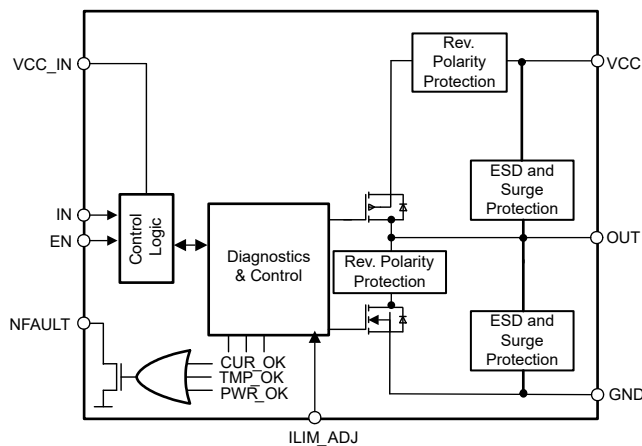

图 8-1. Block Diagram, TIOS102
Figure 8-1 shows that the device driver output (OUT) can be used in a push-pull, high-side, or low-side configuration using the enable (EN) and transmit data (IN) input pins. OUT can drive resistive, large capacitive or large inductive loads.